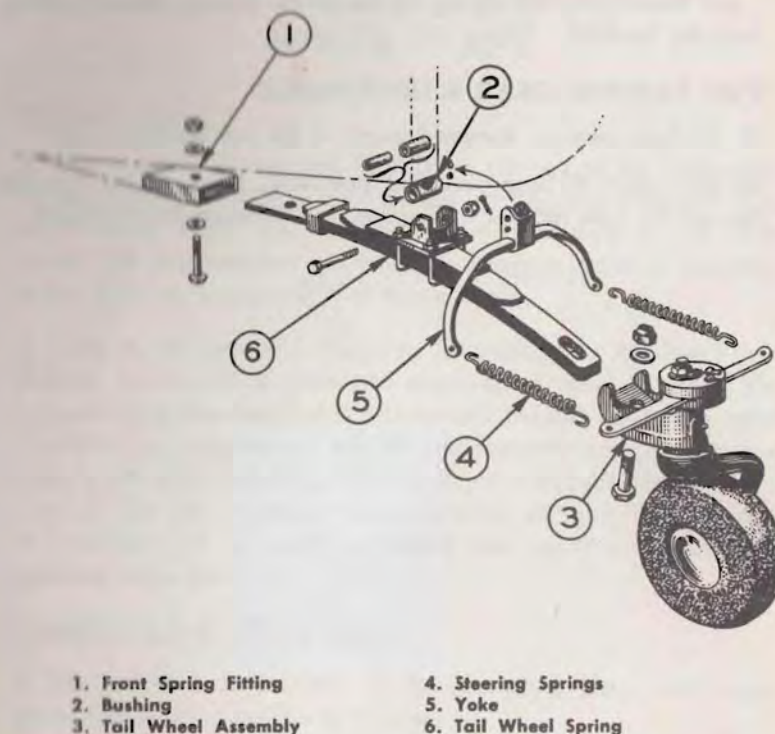

Figure 39—Tail Landing Gear Assembly
53. (Refer to figure 39). The tail wheel unit is a full-swiveling, solid tired unit. The wheel is mounted on a leaf spring that is attached to the fuselage. The steering arms are connected to a rudder yoke with two springs. The wheel is steered through a limited arc by movement of the rudder pedals. Beyond this arc a release disengages the wheel and provides full swiveling action of the unit.